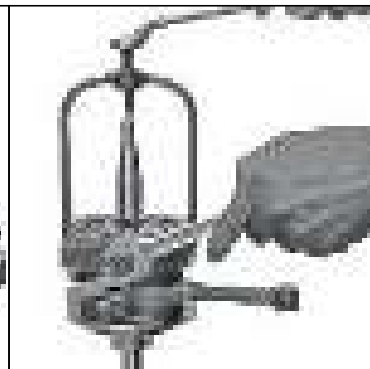

Fig. 1.23B
- Used to remove the main bearing from the crankshaft. (Fig. 1.23B)